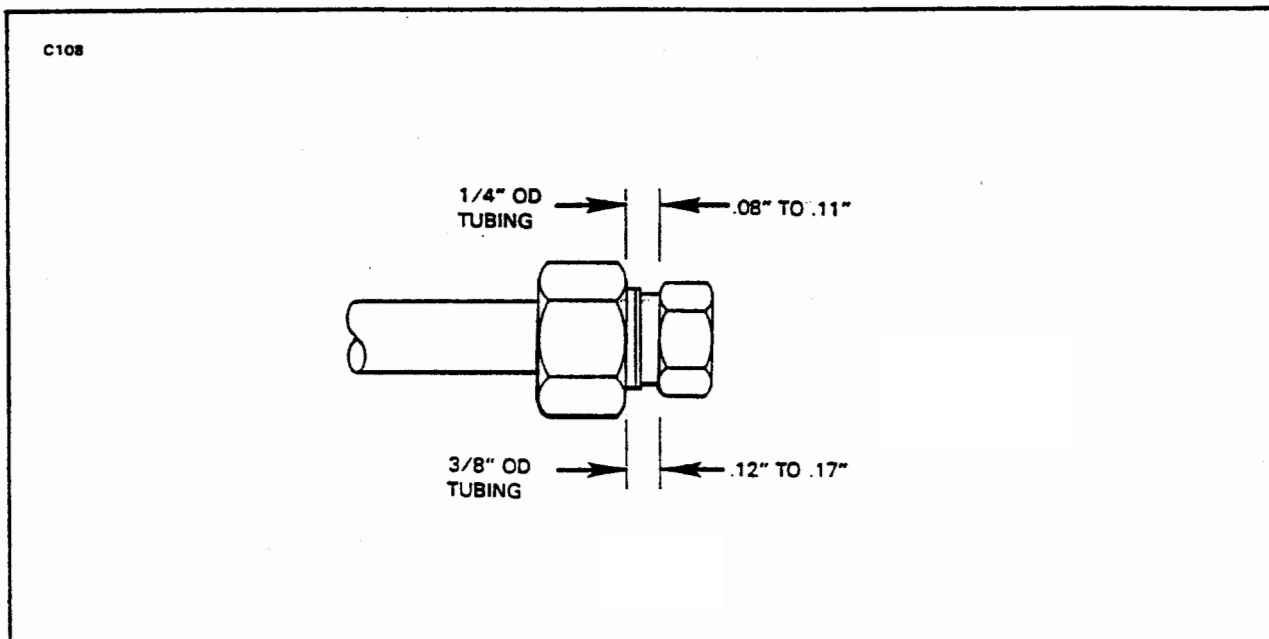

Figure 9-1a. Tolerances, Union Nut and Tubing Nut
- e. After torquing each fitting, measure the distance between the face of the union nut and face of tubing nut. Refer to Figure 9-1a for tolerance.
- a. If fittings show evidence of galling, or does not meet the dimensional requirements of Figure 9-1a, or continues to leak after being tightened it must be repaired.